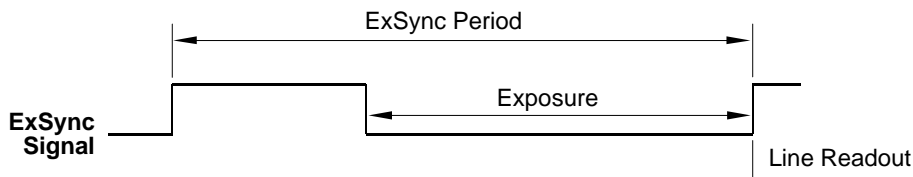

Fig. 28: ExSync Level Controlled Mode
- In **ExSync level controlled** mode, line acquisition begins on the rising edge of the ExSync signal. The exposure time is determined by the time between the falling edge of ExSync and the next rising edge. The pixels are exposed and charge is accumulated only when ExSync is low. The pixel values are read out of the sensor on the rising edge of the ExSync signal (see Figure 28).